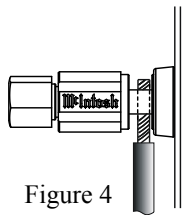

Figure 4
8. Connect the Loudspeaker hookup cables to the MC2152 Negative Output Terminal (-) and Positive Output (+) Terminal identified as 2Ω (ohms), 4Ω (ohms) or 8Ω (ohms) connection to match the impedance of the Loudspeaker, being careful to observe the correct polarities. Insert the spade lug connector or prepared section of the cable end into the terminal side access hole, and tighten the terminal cap until the cable is firmly clamped into the terminals so the lugs or wire cannot slip out. **Do not over tighten.** Refer to figures 4, 5 and figure E.